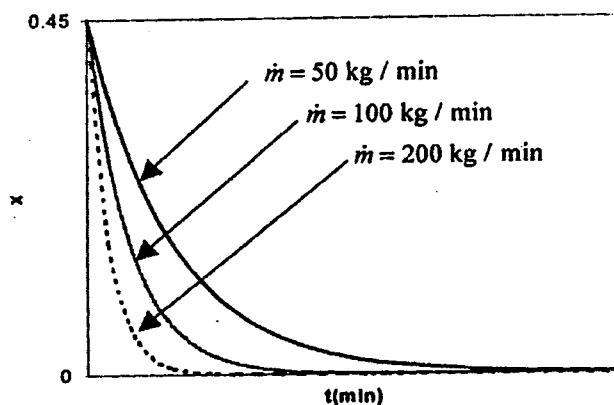

Figure Q.6.
- [iii] Refer Figure Q. 6., data for $\dot{m} = 50 \text{ kg/min}$, 100 kg/min and 200 kg/min are plotted. Discuss the results shown in the figure in light of part [ii].